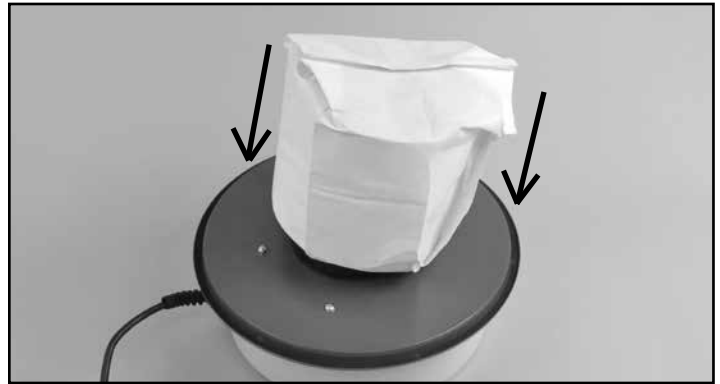

FIG. 3
3. Push the filter assembly down onto the motor body, making sure that it is fully seated and secure. FIG. 3.